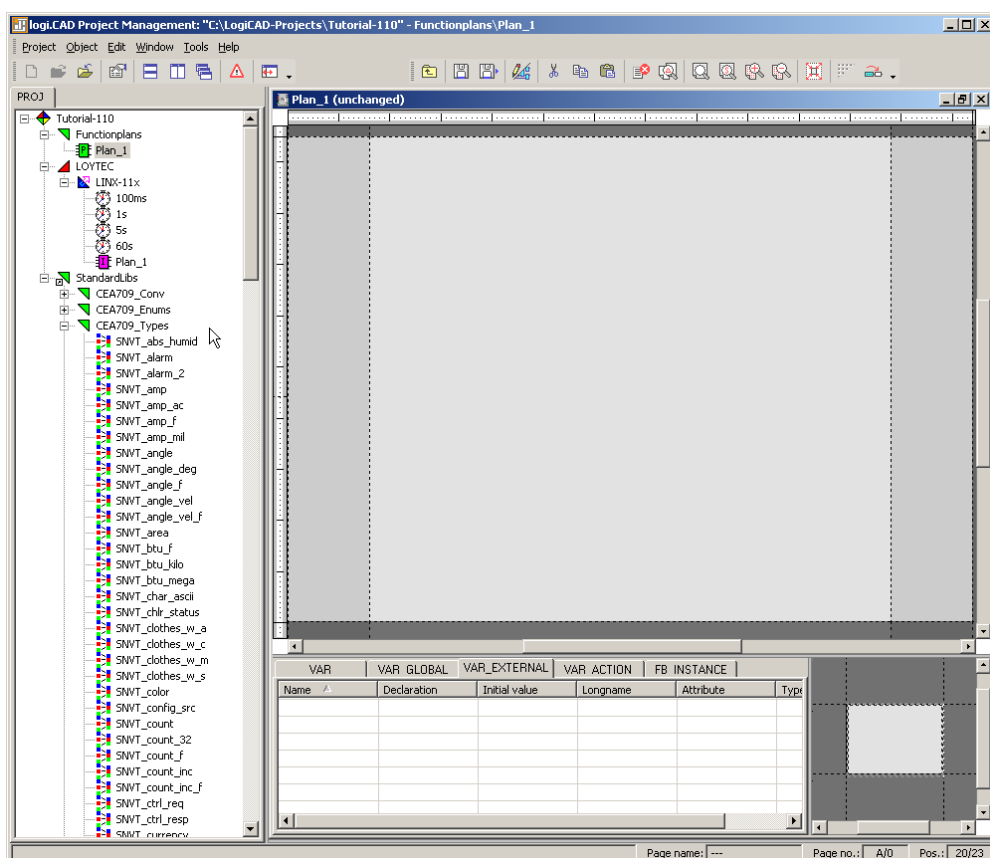

Figure 26: Edit Plan\_1
7. As shown in Figure 26 below, expand the tree element **Functionplans** and double click **Plan\_1** in order to start editing the plan.